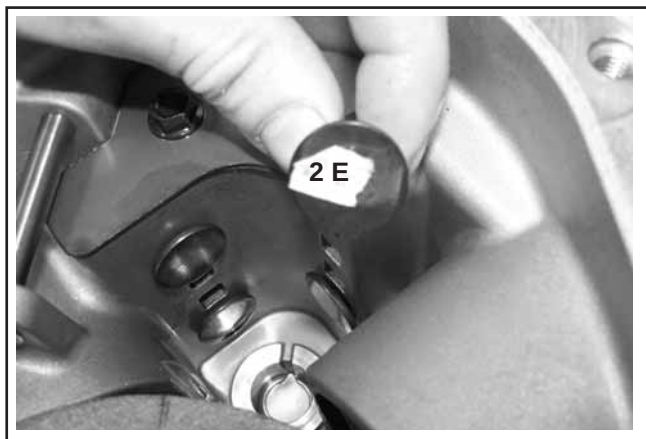

Figure 8-46. Removing Valve Tappets.
2. Remove the valve tappets from the crankcase and mark them by their location, as either intake or exhaust and cylinder 1 or 2. Tappets should always be reinstalled in the same position. See Figure 8-46.